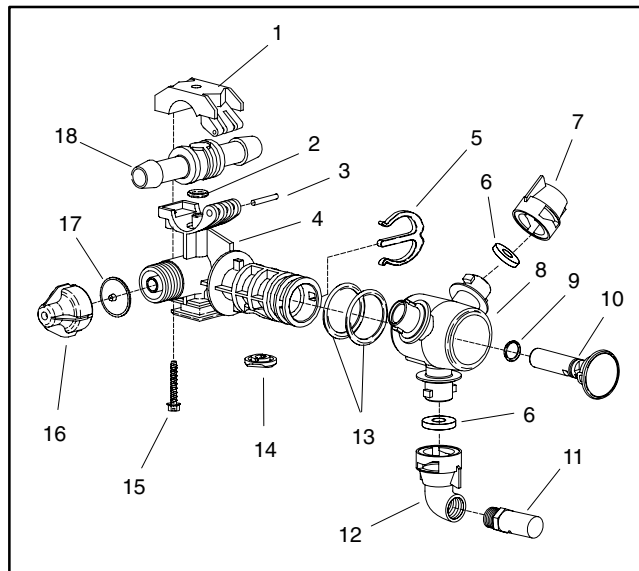

Figure 37
### Disassembly (Fig. 37)
2. Disassemble turret body using Figure 37 as a guide.
### Assembly (Fig. 37)
2. Assemble turret body using Figure 37 as a guide.